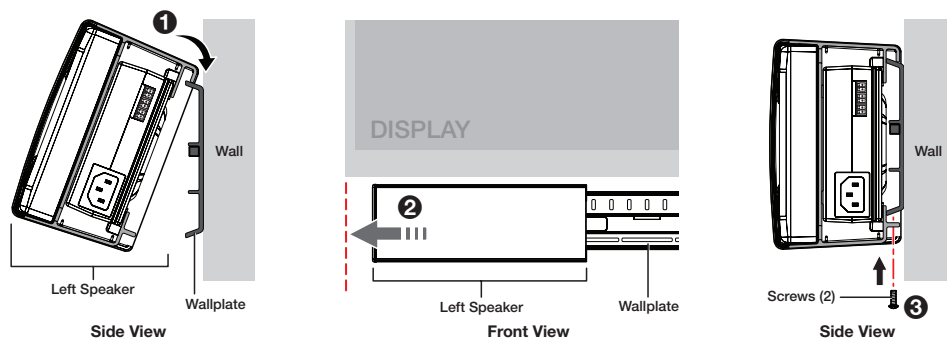

Figure 11. Attaching the Left Speaker to the Wallplate
1. Hook the top clasp edge of the left speaker assembly over the top rail of the wallplate (figure 11, ①) and slide it to left end of the wallplate (②) so that the left end of the speaker assembly is aligned with the left end of the display.